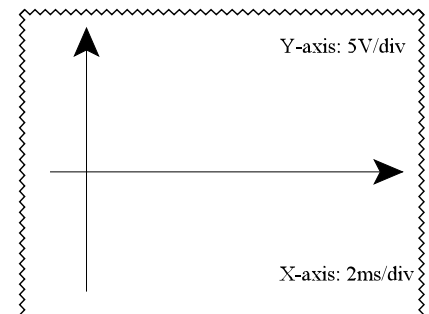

Fig. 2
A. Draw the output voltage waveform of the circuit on the scope screen shown in Fig. 2.